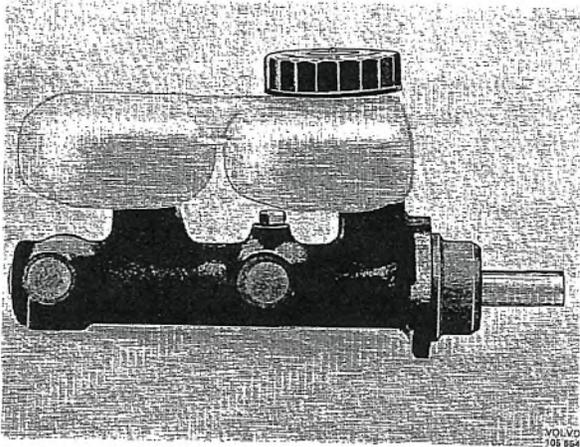

Fig. 5-44. Master cylinder removed
3. Remove the two attaching nuts for the master cylinder and lift the cylinder forwards, see Fig. 5-44. Empty out the brake fluid.